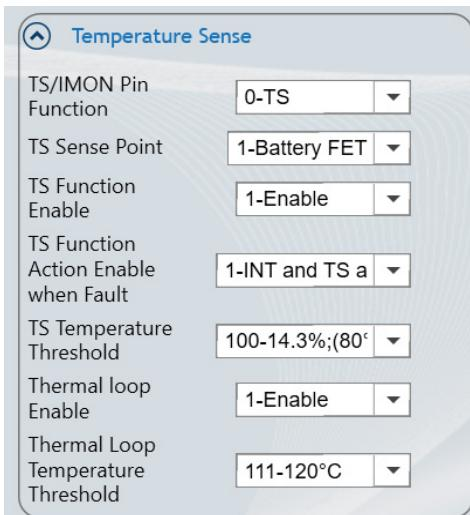

Figure 18: Temperature Sense
Figure 18 shows how to configure temperature-sense control. The TS/IMON pin can be set as either the temperature-sense pin (TS) or the battery current monitor pin (IMON).